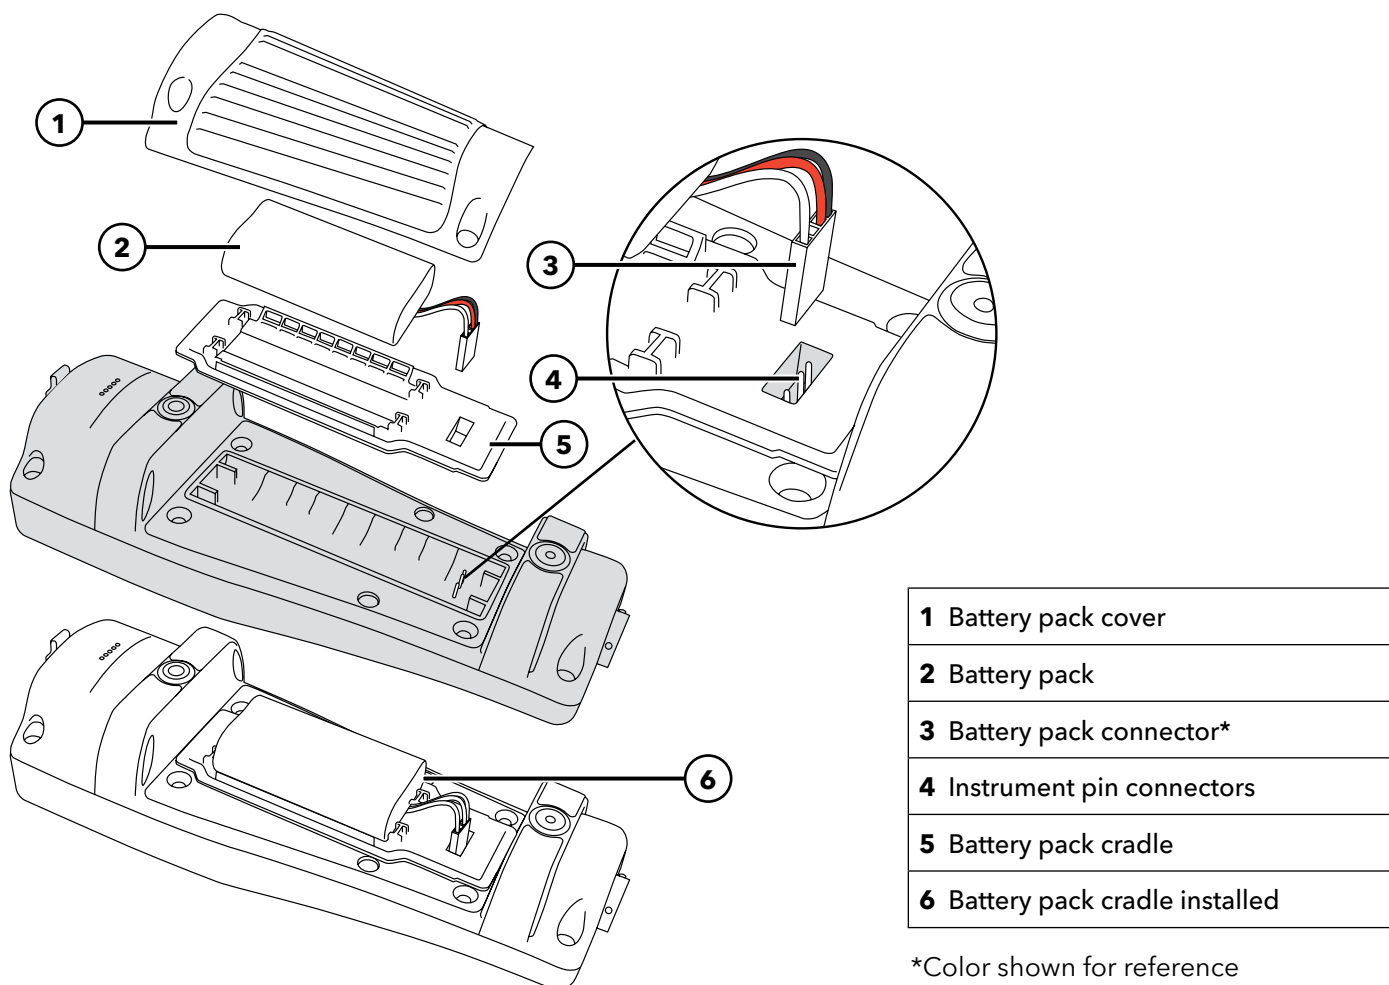

Figure 2 Battery replacement
1. Remove the battery pack cover by unscrewing (counter-clockwise) the four screws with a flat or Phillips head screwdriver (Figure 2). The retaining screws are captured into the battery pack cover and are not removable.